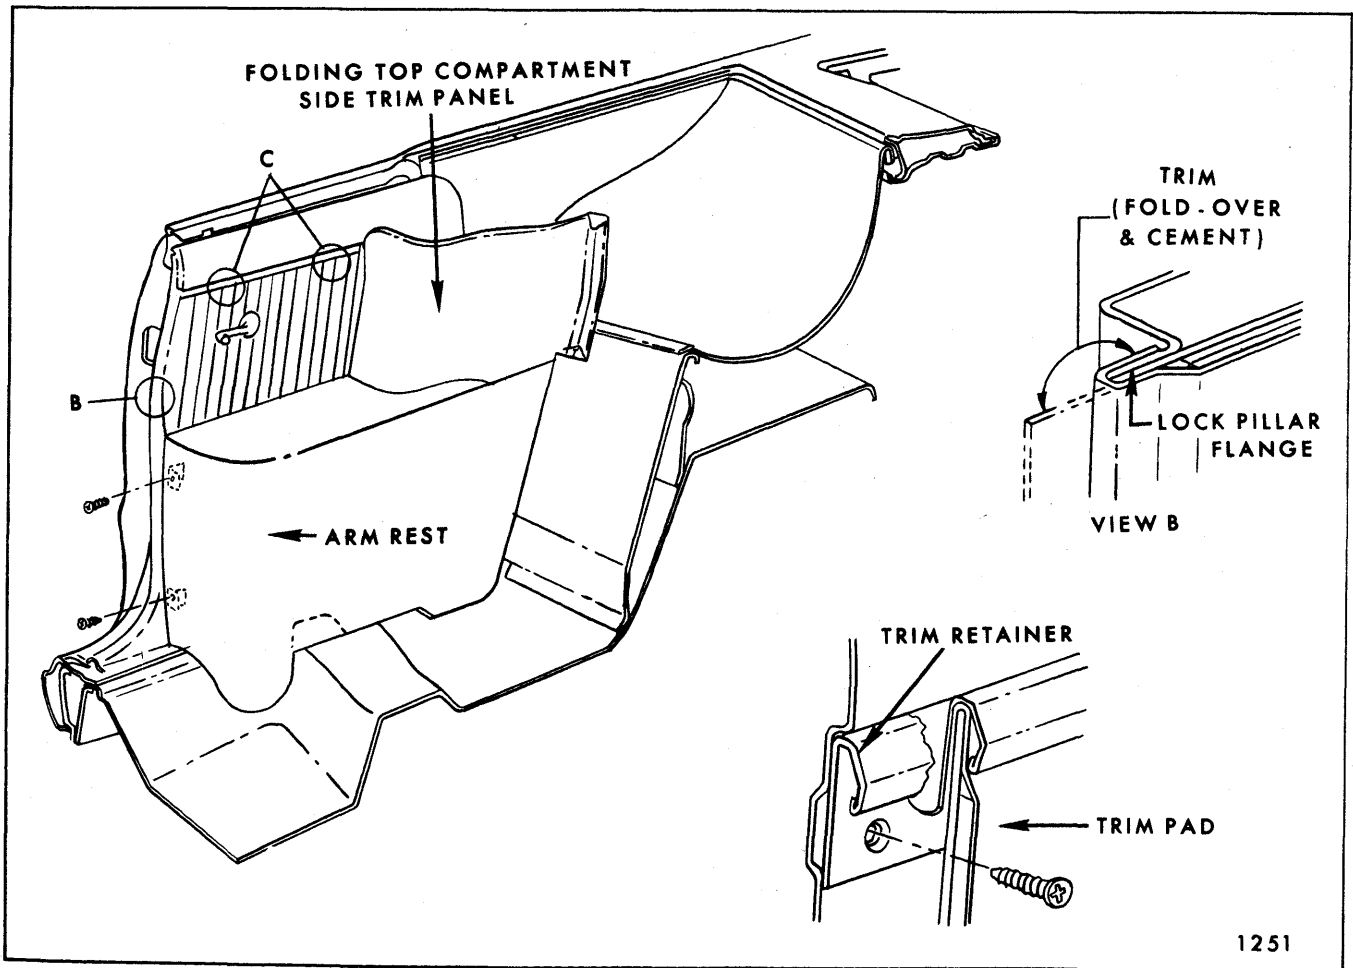

Fig. 8-9—Rear Quarter Trim Assembly - Convertible Styles
4. Carefully detach approximately three inches of the upper front cemented edge of trim material from body lock pillar pinchweld flange (Fig. 8-9, View "B"). Carefully bend or bow trim inboard sufficiently to disengage upper edge of trim from under finishing molding retainer (Fig. 8-9, View "C").
The finishing molding retainer (Fig. 8-9, View "C") is retained by screws and can be removed at this point, where required.
- 6. To install rear quarter trim assembly, reverse removal procedure. Prior to installation of pinchweld finishing strip, recement forward edge of trim to pinchweld flange (see Fig. 8-9, View "B").